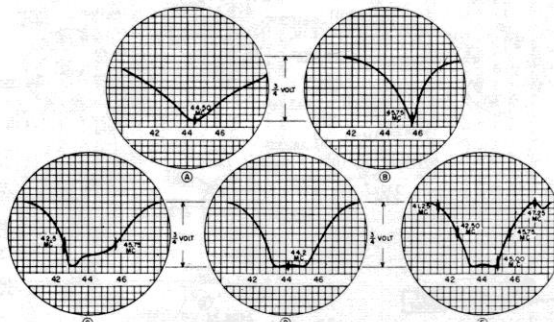

Fig. 13. Video I-F Curves
4. The 41.25 mc audio I-F marker should be approximately 4% of the total amplitude of the curve. See Final Alignment Curve, Figure 13-E.
6. In most cases it is only necessary to perform an overall alignment of the video i-f, as in step 7 of the Video Alignment Chart, to obtain i-f response curve of Figure 13-E. When aligning the i-f coils, L245 will adjust the audio or low frequency side of the i-f response curve, while L246 will adjust the video or high frequency side of the i-f response curve. L209 and L247 should be adjusted simultaneously to reduce the saddleback at the peak of the curve and to give maximum gain and retain 45.75 and 42.50 mc markers at the 50K mark.
9. Adjust the signal input to give a video response curve of 3/4 volts, as shown in Figure 13.